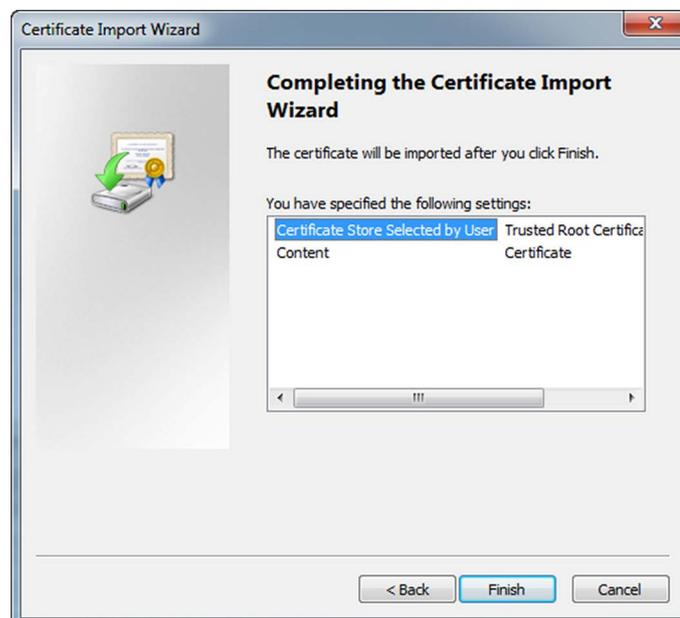

FIGURE 1-14 *Certificate Import Wizard - Completing* window
- i) Click the **Next** button. The *Certificate Import Wizard - Completing* window is displayed (see FIGURE 1-14).